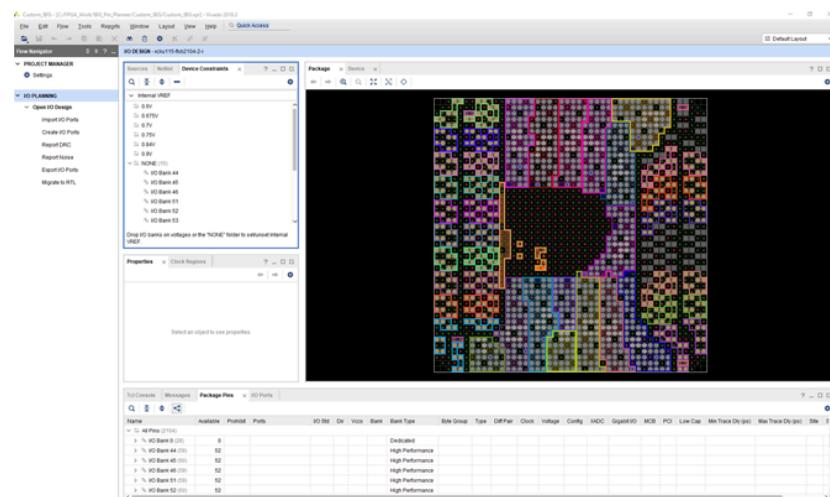

Figure 9: Device View
- When the project is created, a device view will be shown (Figure 9):